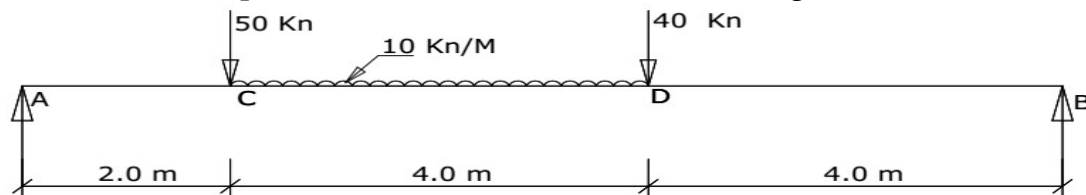

Figure 1(a)
- a) For the elevation of the beam shown on figure 1(a), determine the reaction at supports and draw the **shear force diagram to determine the point of contra flexure**, from this point, determine the maximum bending moment.
- b) For the bar on figure 1(b) below which is applied to several axial loads P_1 , P_2 , P_3 and P_4 . Determine the magnitude of the force P_2 and the overall extension of the bar.
- c) Using the integration method and figure 1(c), derive an expression for centroid of a triangle from y-y axis.
- d) A bar of rectangular section 20mmx30 mm carries an axial force of 10 Kn. Determine the normal and shear force on plane inclined at 30° to the axis of the bar as shown on figure1 (d) below. Also determine the magnitude and nature of the normal and shear stresses on the inclined plane.